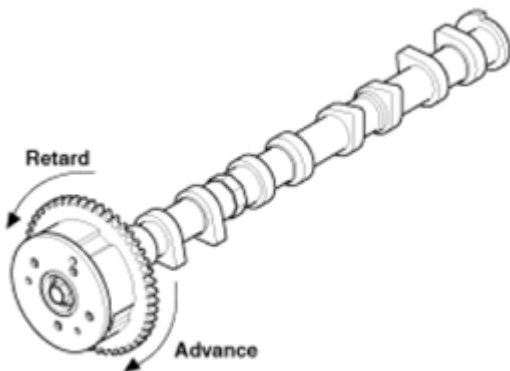

Fig. 38: Identifying CVVT Advance & Retard Rotation Directions
4. With air applied, as in step (3), turn the CVVT assembly to the advance angle side (as shown in **Fig. 38**) with your hand.